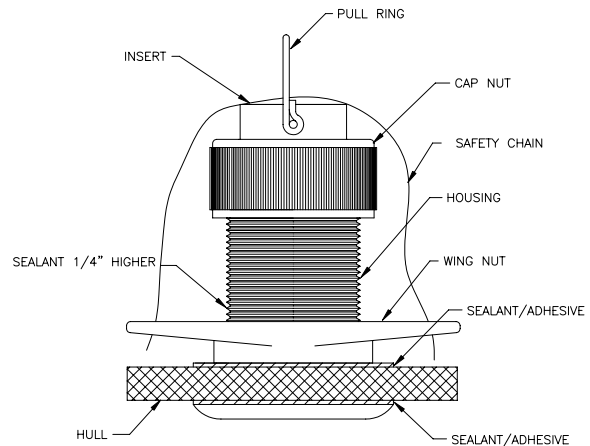

Figure 2. (Retractable model shown)
7. From the inside, thread down the wing nut until it makes contact with either the hull or fairing block, if used. The wing nut should then be tighten to a snug fit, hand tighten only. See Figure 2.